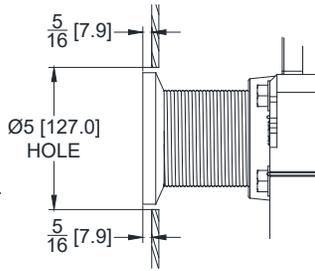
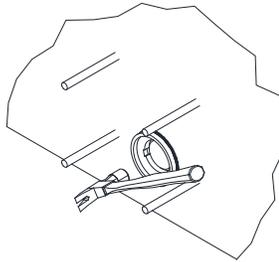

Figure 10a
Figure 11a
- b. Adjust the coupling to extend 5/16" from the finished wall (see Figure 10a). Ensure the coupling threads are protected from debris adhesion to allow adjustment after the wall is in place. If the coupling must be shortened, cut from the threaded end. Prevent damage to the o-ring by chamfering the cut end and thoroughly deburring.
12. Finished wall should be installed. Ensure appropriate size opening is made for coupling. See Figure 10a.
- a. Standard, -CS, and -CC Couplings: Remove the protective sleeve. Ensure coupling extends 5/16 [8] from finished wall (see Figure 10a). Knock out the test cap with a hammer and deburr sharp edges. See Figure 11a.